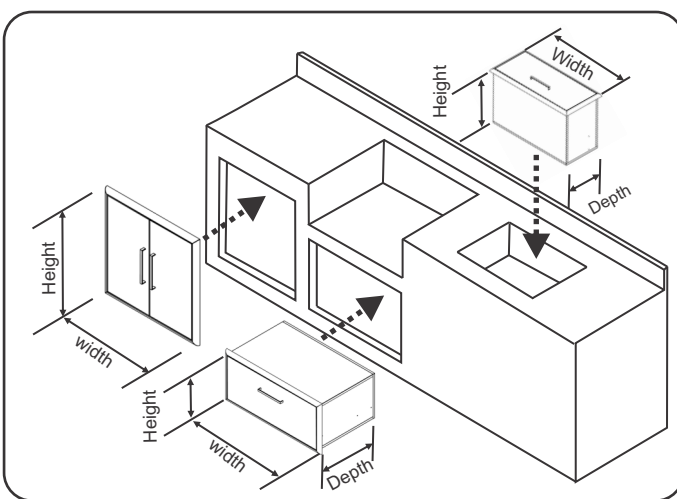

Figure 1 - Cut out Guide
**For proper installation, be sure to use the correct cutout dimensions as specified for your model number. Locate your model on page 2, then reference figure 1 for correct orientation.**